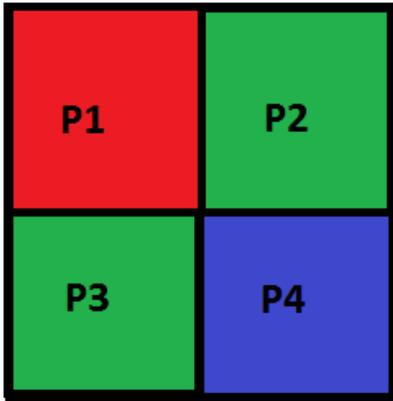

Figure 12.20. Bayer pattern
The nearest neighbor interpolation method is the simplest Bayer demosaicing algorithm. For a Bayer pattern [Bay76] of four neighboring pixels P1 to P4 (see Figure 12.20, 'Bayer pattern') the missing red (R), green (G) and blue (B) colors can be interpolated according to [Ada95]: